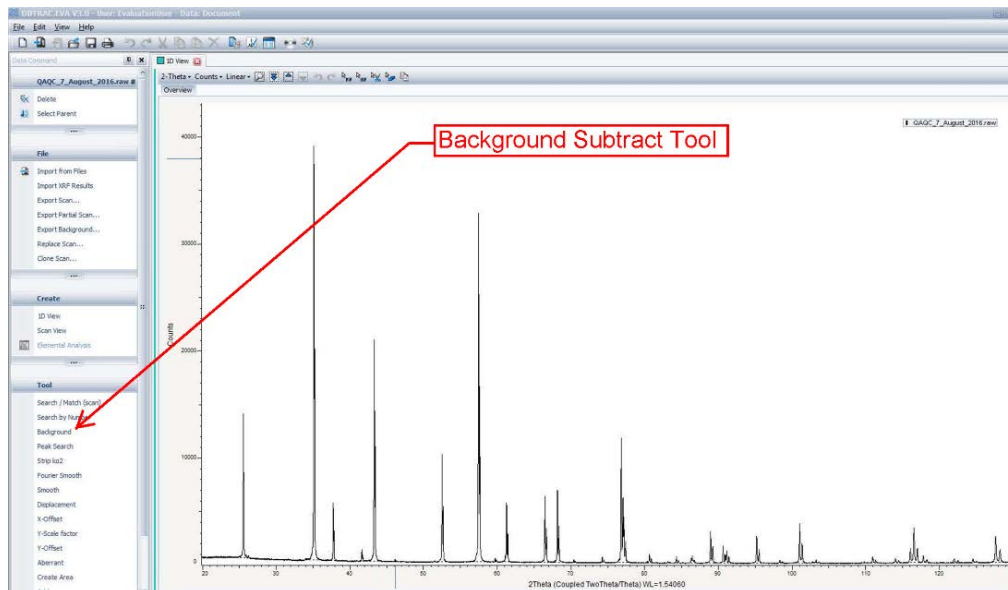

Figure 25: EVA diffractogram. The arrow points to the Background Subtract tool.
2. Subtract the background (Figure 25).